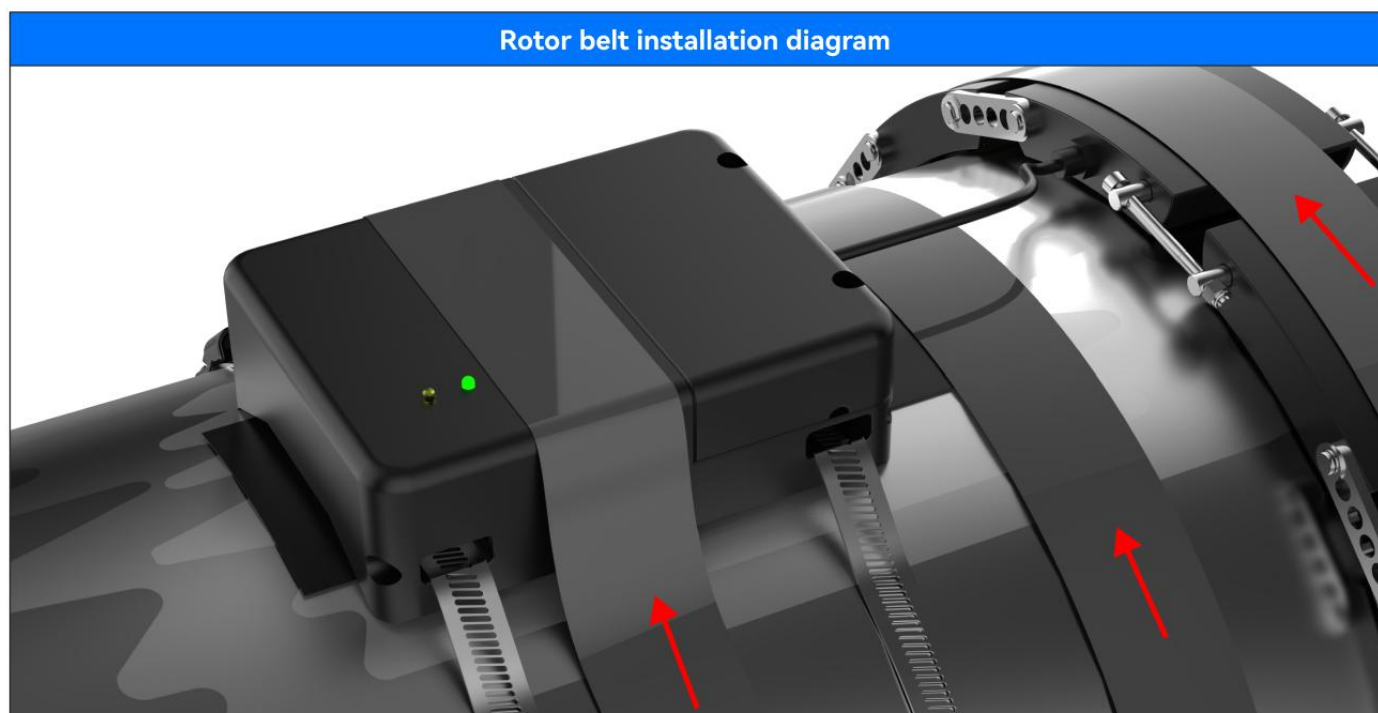

Figure 3.36
4. Starting from the top of the rotor assembly, wrap cloth reinforcement tape (included) around the entire rotor assembly and rub it on each rotor link. Repeat this for the shaft two to three times. Overlap it at the beginning of the tape and trim the ends. Tape adds additional protection to the rotor assembly, as shown in Figure 3.36.